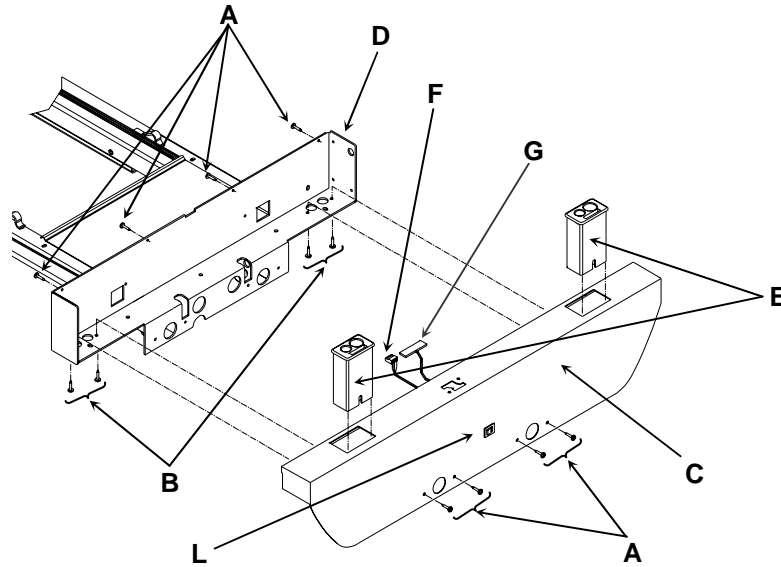

Figure 4.6A
5. Using a Phillips screwdriver, remove the 12 screws (A, B, fig. 4.6A, page 24) holding the foot end casing cover (C, fig. 4.6A, page 24) and the two IV pole holders (E, fig. 4.6A, page 24) to the foot end casing.
6. Lift up and hold the cover while disconnecting from the PC Board the On/Off switch cable (F) and the PC Board to the foot end casing connector cable (G). Carefully note the connecting positions of the cable connectors to the PC Board connectors - On/Off switch: connector green wire facing pin 11 of the board connector; foot end casing connector cable: connector black wire facing pin 1 of the board connector. Lay cover aside.
8. Using a 3/8" wrench, remove the locknut (B) holding the PC Board ground wire (C).
9. Using a Phillips screwdriver, remove the two screws (D) holding the PC Board support (E) to the frame and remove the PC Board.
Refer to fig. 4.6A, page 24, for illustration of the reference points mentioned in this section.